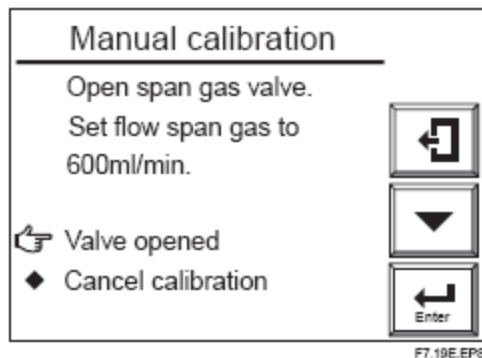

Figure 7.19 Span-gas Flow Display
- (3) Follow the display message in Figure 7.19 to turn on span gas flow. Open the span-gas flow valve for the Flow Setting Unit by loosening the valve lock-nut and slowly turning the valve shaft counterclockwise to flow the span gas at  $600 \pm 60$  ml/min. Use the calibration gas flowmeter to check the flow.
- (4) If “Valve opened” is selected as in Figure 7.19 , an oxygen-concentration trend graph (with the oxygen concentration being measured) appears (see Figure 7.20). The CAL TIME in the bottom area of the panel flashes. Observe the trend graph and wait until the measured value stabilizes in the vicinity of 21% on the graph. At this point, calibration has not yet been executed yet, so even if the measured value is above or below 21%, no problem occurs.